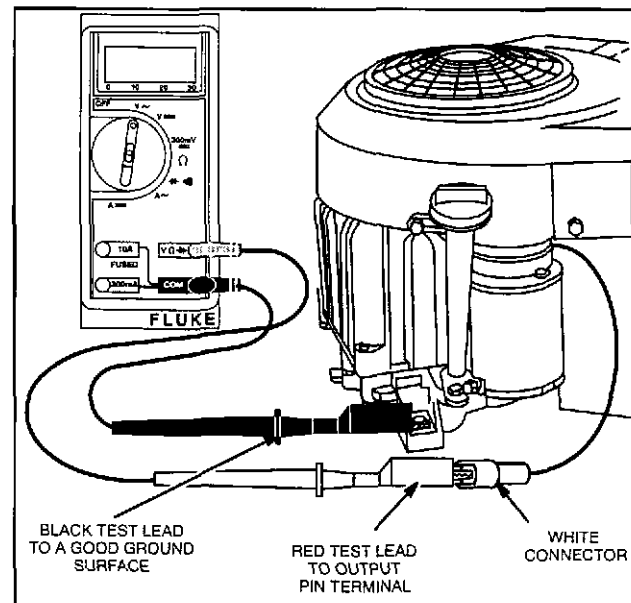

Fig. 11 - Testing AC Output
4. Attach RED test lead clip to AC output terminal, Fig. 11.